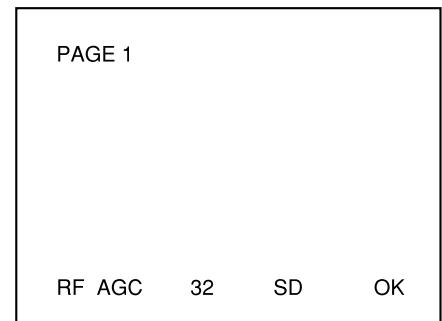

Fig. 1-6
2. Using the volume keys on the jig remote controller, adjust the test point voltage becomes to $3.5V \pm 0.3V$. And at the same time, confirm AFT status changes to "OK" as shown in the fig. 1-6.